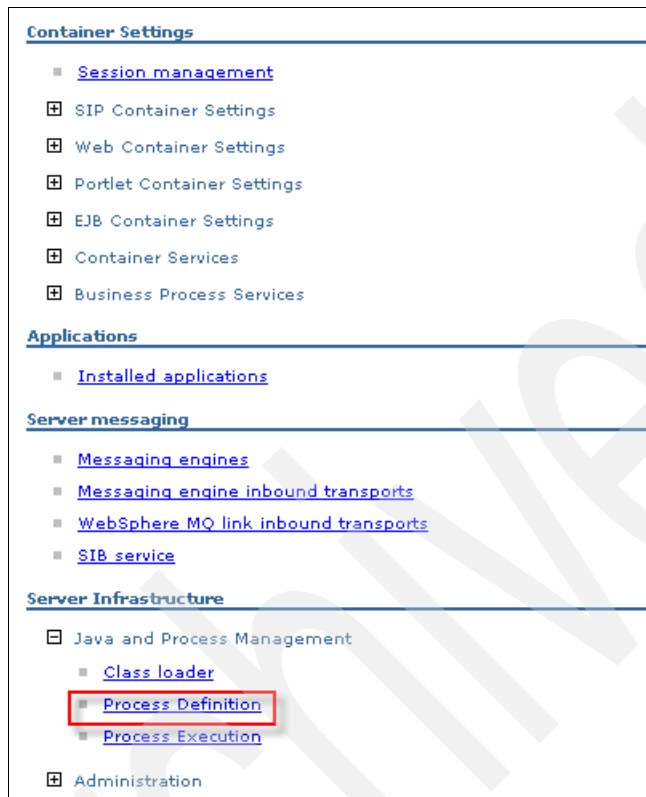

Figure 7-26 Process Definition
3. Under the Server Infrastructure section (Figure 7-26), expand **Java and Process Management** and click **Process Definition**.